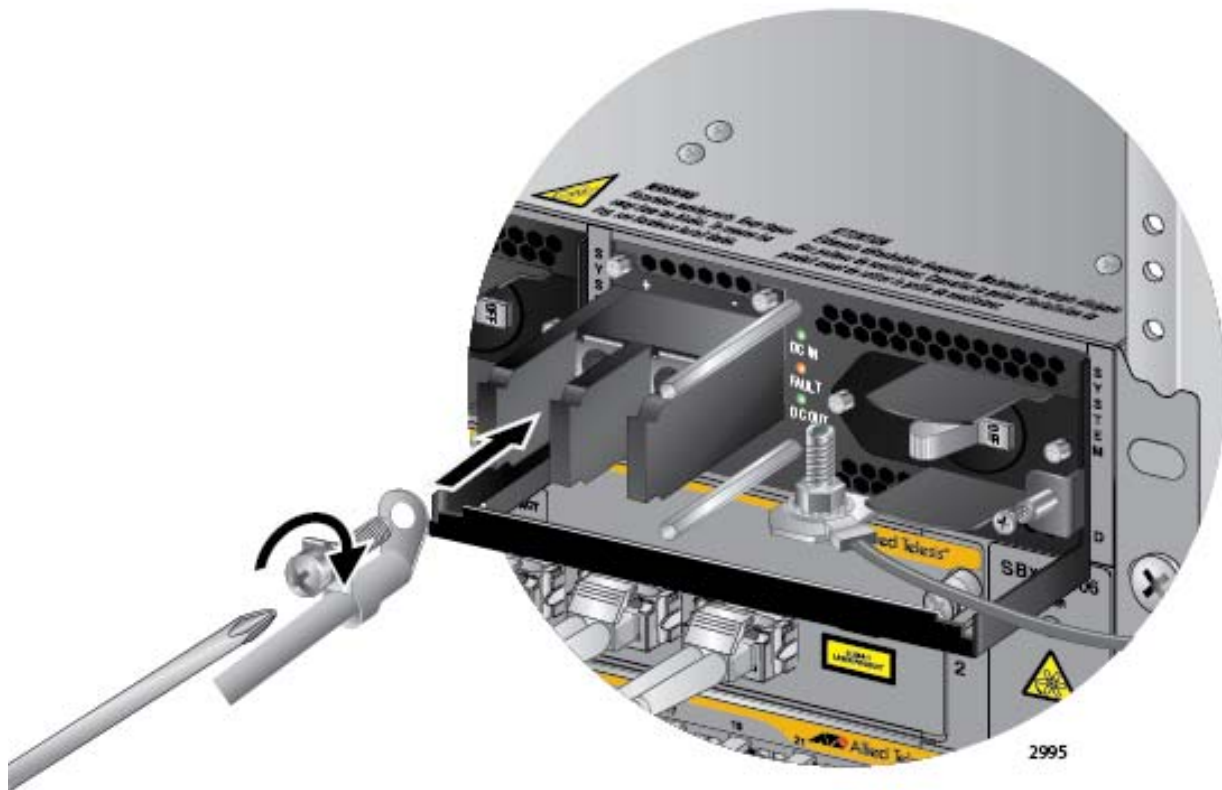

Figure 154. Connecting the Positive (+) Power Wire with a Right Angle Terminal
6. With a #3 Phillips-head screwdriver, connect the positive (+) power lead wire to the positive terminal on the power supply, with one of the terminal screws removed in the previous step. The positive terminal is on the left. Refer to Figure 154 on page 230.